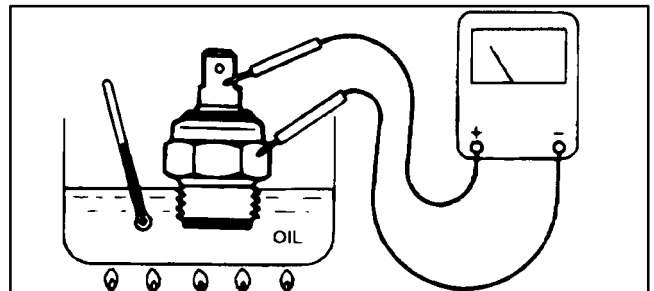

Figure 21
2. Put switch in a container of oil with a thermometer and slowly heat the oil (Fig. 21).